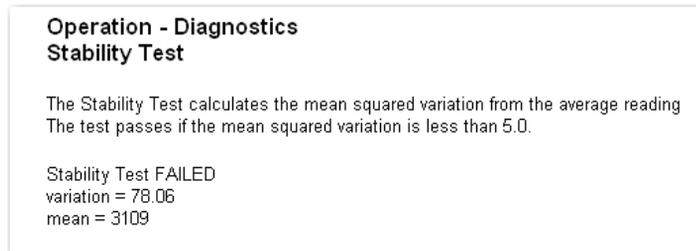

FIG. 418 DIAGNOSTICS/STABILITY TEST RESULTS
- If the test indicates “Fail” the instrument is unstable. (See Fig. 418) This means that the Mean Squared Variation is greater than 5.0 and/or the average reading is not between 30237 and 36955. This test examines the internal electronics and not the load cells input signal.